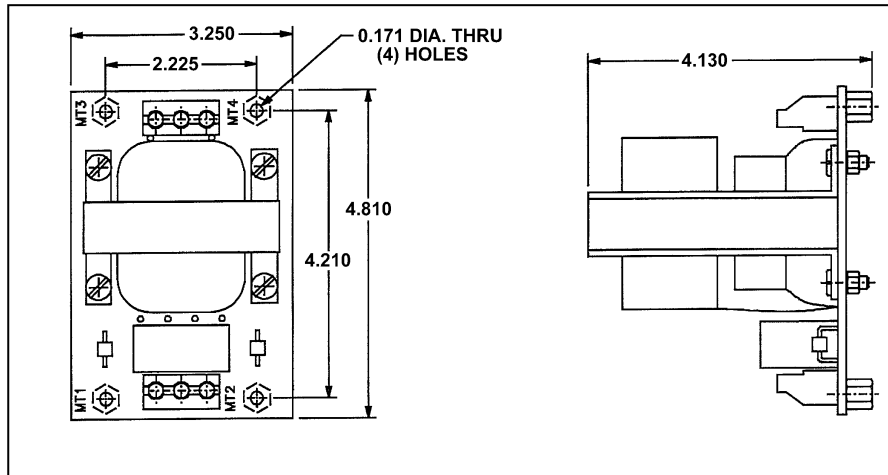

Figure 1 1932 Mounting Dimensions
- 1) Locate the mounting holes **MT1** to **MT4**. Mount the Model 1932 Power Conditioner using four #8-32 fasteners. See Figure 1 – Model 1932 Physical Details.
- 3) Locate the **J1** connector. Wire the **external fuse (load side)** to **J1 – Line** (Black). From the AC power source, wire: **NEUTRAL** to **J1 – NEUTRAL** (White), and **GND** to **J1 – GND** (Ground – Green). See Figure 1 Field Wiring Diagram below.